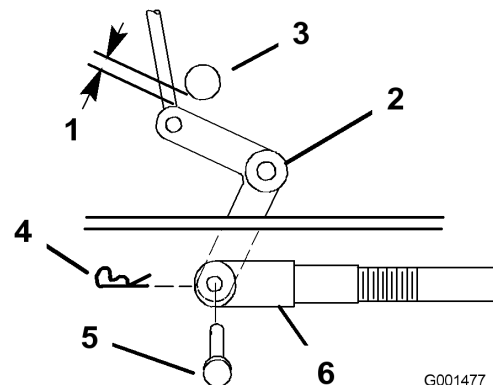
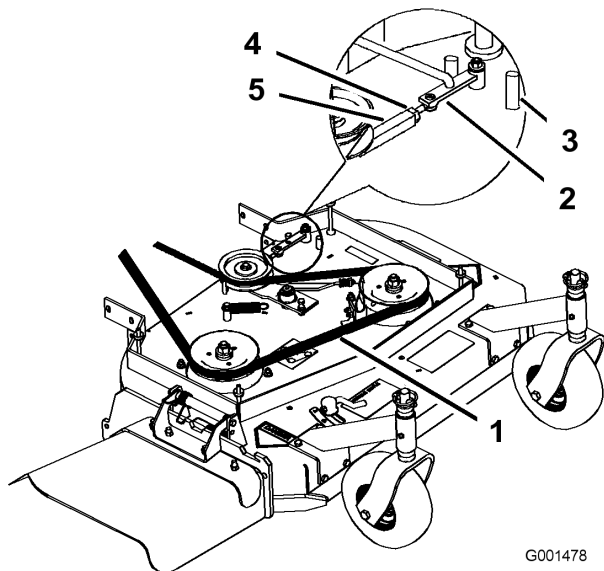

Figure 35
Figure 36
9. Check the clearance between the bell crank and the transmission output shaft (Figure 35).
11. Rotate the clevis clockwise on the rod to increase the clearance; rotate it counterclockwise to decrease it (Figure 35).
Note: If the assist arm does not contact the front stop on the mower deck (Figure 36), adjust the clevis to bring the bell crank closer to the transmission output shaft (Figure 35).
3. Loosen the locknut on the turnbuckle (Figure 36).
4. Rotate the turnbuckle toward the rear of the mower to increase the tension on the belt. Rotate the turnbuckle toward the front of the mower to decrease the tension on the belt (Figure 36).